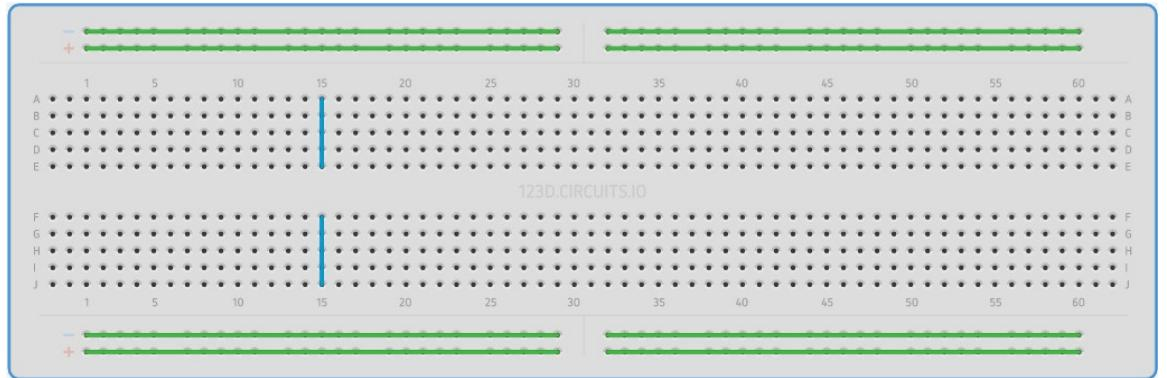

Figure 2.1: Bread board connnections
1. Plug the display to the breadboard in Fig. 2.1 and make the connections in Table 2.2.